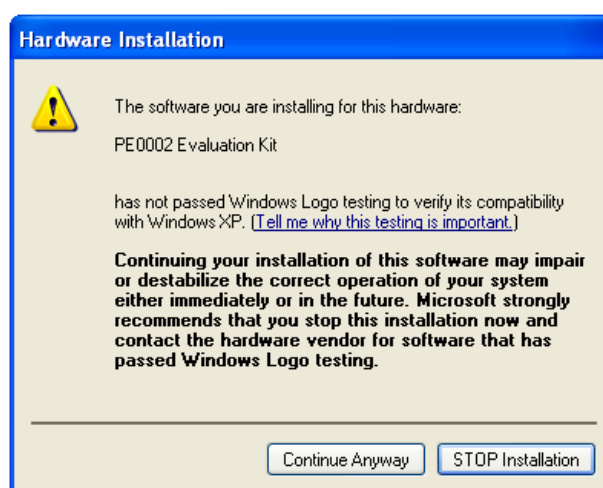

Figure 3 USB Driver Installation Message Box
- Install the USB driver when requested. The driver is in the same folder where the **ES9700xx.zip** files were extracted to, in directory **.\Driver**. Follow instructions on the screen to install the USB driver. Click the 'Continue Anyway' button when the Message Box in Figure 3 is shown.